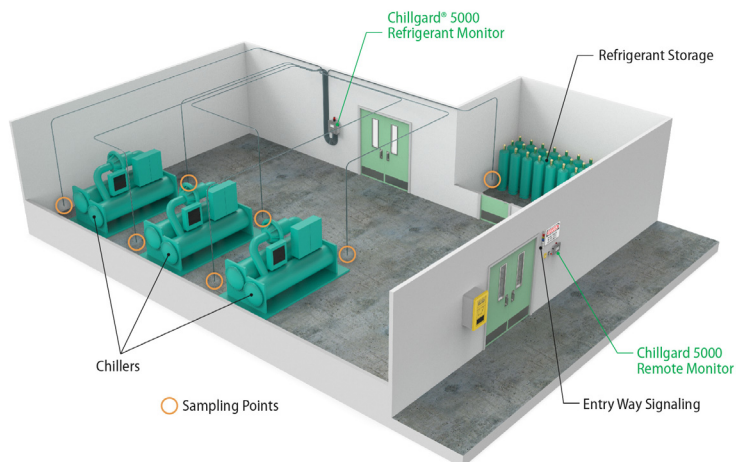
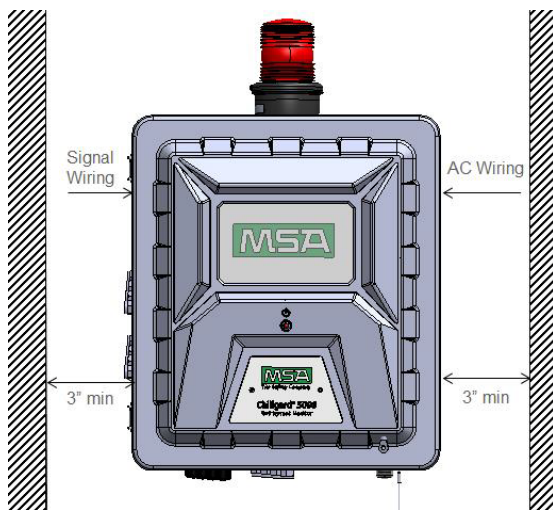

Fig. 7 Mounting location for refrigerants
Fig. 9 Front of device
- Approximately 5 ft (1.5 m) above the ground (Fig. 7, Fig. 9).
- With at least 3 in. (7.62 cm) of clearance around all sides for proper ventilation, calibration, and servicing. Make sure there is adequate space to connect the external wiring and sample line piping (Fig. 9).